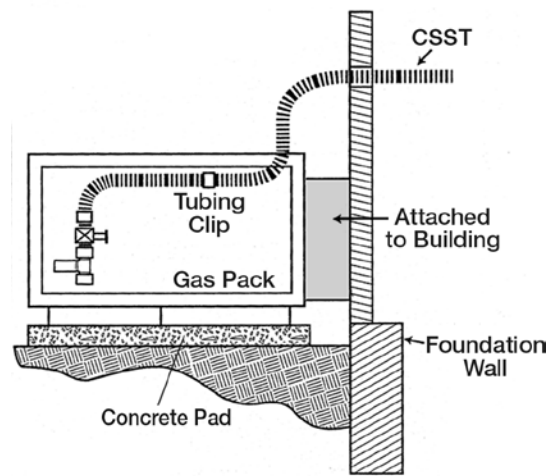

Fig. 4-69
- b) Gas Packs and Other Non-Moveable Equipment (Fig. 4-69) – Can be connected to the Gastite®/FlashShield™ CSST system either through a terminating fitting and rigid pipe or directly with Gastite®/FlashShield™ CSST connected to the appliance shut-off valve.